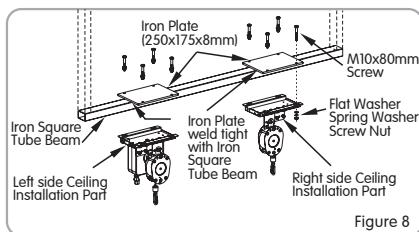

Figure 8
7. If the ceiling where you install the parts is not a flat Concrete Ceiling, then extra a mounting rack is necessary, Figure 8–9.